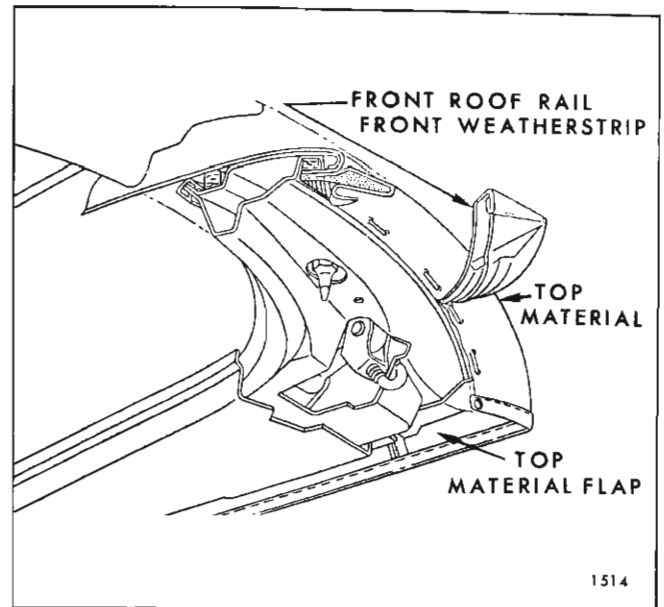

Fig. 1-I-1—Front Roof Rail Assembly
8. Remove front roof rail front and rear weatherstrips (Fig. 1I1).
9. Detach top material from front roof rail (Fig. 1I1).
10. Detach top material flaps from side roof front rail (Fig. 1I1).
12. At right and left side roof front and rear rails, remove hold-down cable front and rear attaching screws. (See views "A" and "B" in Fig. 1I2).
14. At underside of front bow, remove screws securing listing pocket retainer to bow (Fig. 1I3).
16. Detach folding top compartment bag from rear seat back panel, thus exposing rear quarter and rear trim stick attaching bolts. Forward end of top compartment bag may be tied or wired to center roof bow to provide ready access to attaching bolts (Fig. 1I4).
17. At each rear quarter area remove attaching bolts securing rear quarter trim stick assembly to rear quarter inner panel (Fig. 1I5).